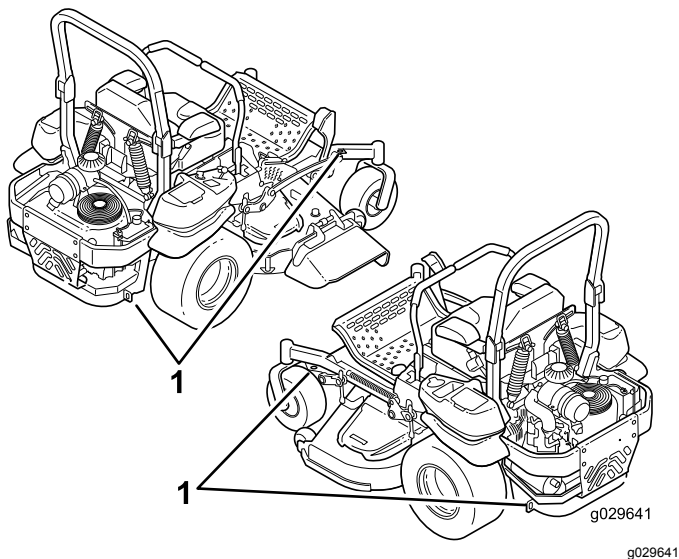

Figure 41
5. Use the metal tie-down loops on the machine to securely fasten the machine to the trailer or truck with straps, chains, cable, or ropes (Figure 41).